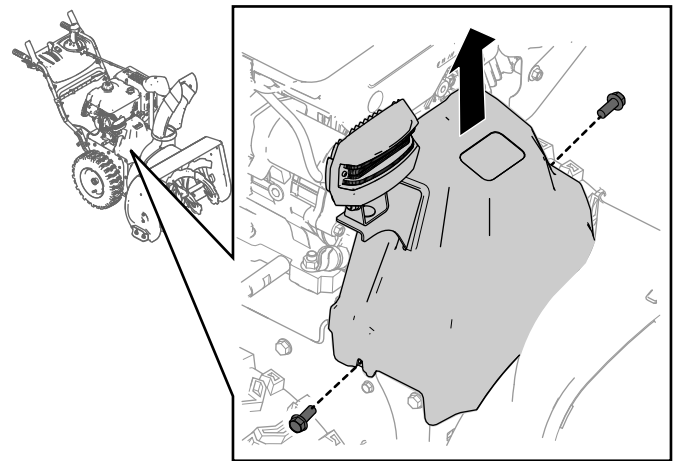

Figure 27
1. Remove the 2 screws that are holding the belt cover in place (Figure 27).
2. Remove the belt cover (Figure 27).